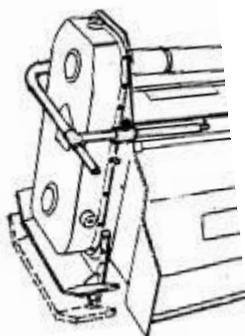

Figure 14. Adjustment with the left slider
Side sliders are used for working depth adjustment (see Figures 14 and 15). Unscrew the regulation screw (Fig. 14 and 15, Pos. 1), lift or lower the sliders (A) and (B) to the desired height, and then again screw/tighten the regulation screw.